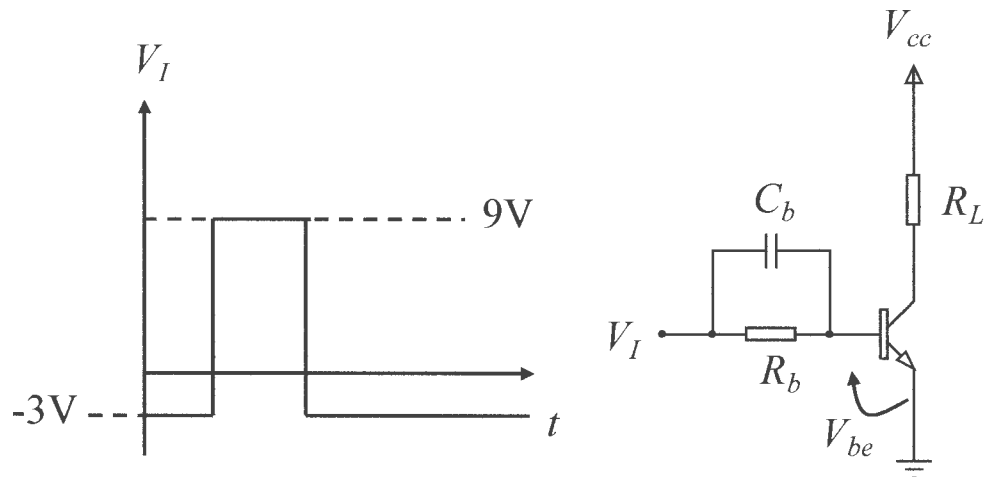

Figure 2 (4)
- c. Determine the appropriate value of base resistor R_b required to achieve an overdrive factor $M = 6$ for the circuit shown in Figure 2 where $R_L = 15\Omega$, $V_{cc}=300V$, $h_{FEmin} = 50$, $V_{beON} = 1V$ and V_I is the control voltage waveform, having a value of 9V when the transistor should be in its on-state, and -3V when the transistor should be in its off-state.